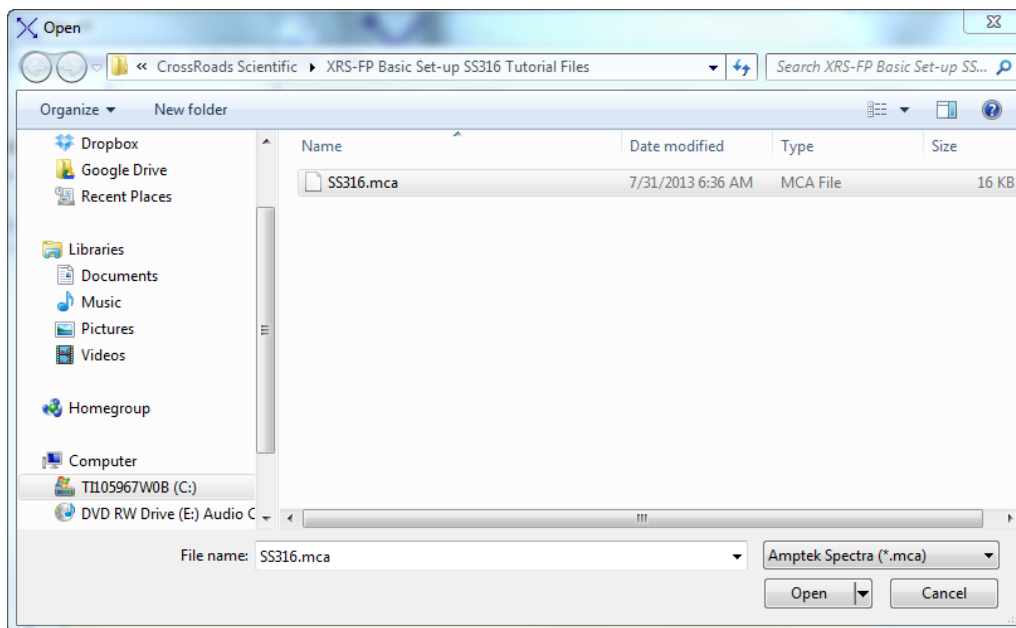

Figure15. File Open Menu. Open the stainless steel spectrum, *.mca file (e.g. SS316.mca).
12. The next step is to extract intensities from the stainless steel 316 spectrum (*.mca file). Select **File -> Open -> “C:\CrossRoads Scientific\XRS-FP\Basic Setup Tutorial\SS316.mca”** (or equivalent location). See Figures 15 and 16 below. Note that the spectra provided for this tutorial are already adjusted and in calibration.